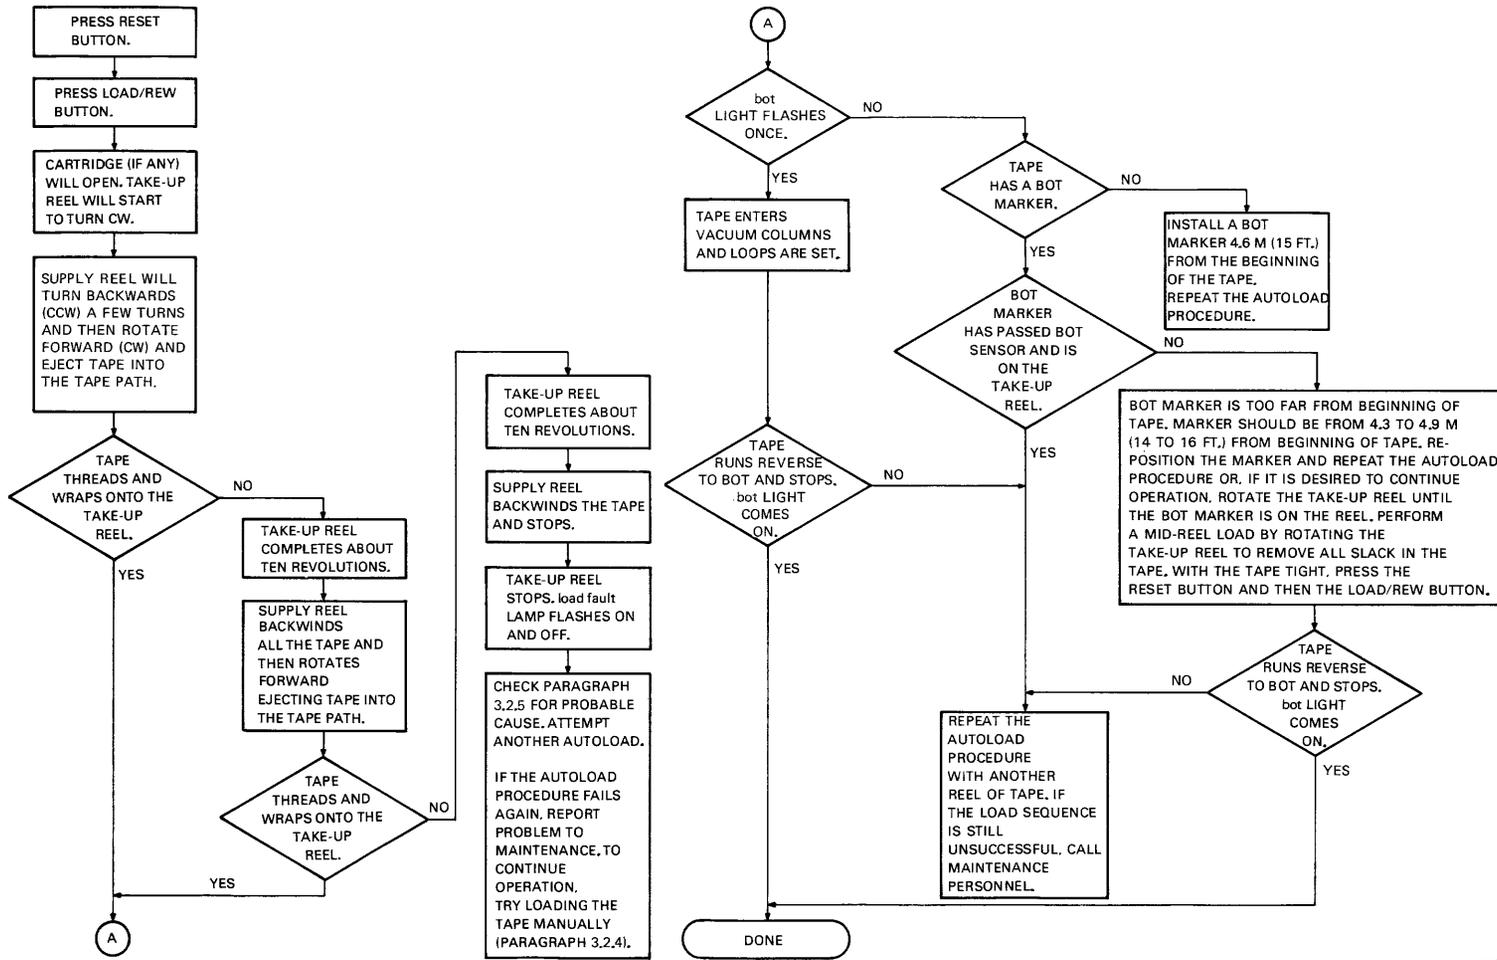

Figure 3-4 Autoload Sequence with Operator Troubleshooting
10. Follow the instructions and check for the events specified in Figure 3-4. If the tape fails to load properly, the figure contains some operator troubleshooting hints that can be tried before maintenance personnel are called. Refer to Figure 3-5 to identify tape path components.